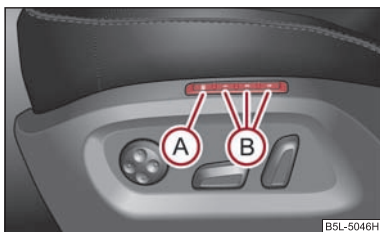

Fig. 59 Driver seat: Memory buttons and SET button
- Press button **SET** (A) ⇒ fig. 59.
- Press one of the memory buttons (B) within 10 seconds after pressing the button **SET** - an acknowledgement signal confirms that the seat setting is stored.
Memory for the seat offers the possibility to store the individual driver seat and external mirror position. An individual position can be allocated to each of the three memory buttons (B) ⇒ fig. 59, that is three in total. After pressing the corresponding memory button (B), the seat and the exterior mirror are automatically moved into the positions which have been allocated to this button ⇒ page 67.
- **By pressing briefly:** briefly press the desired memory button (B) ⇒ page 67, fig. 59. The seat and exterior mirror are moved automatically into the stored positions (this applies only if the ignition is switched on and the speed is less than 5 km/h).
- **By pressing for a long period of time:** press and hold the desired memory button (B) pressed long enough until the seat and the exterior mirrors are moved into the stored positions.